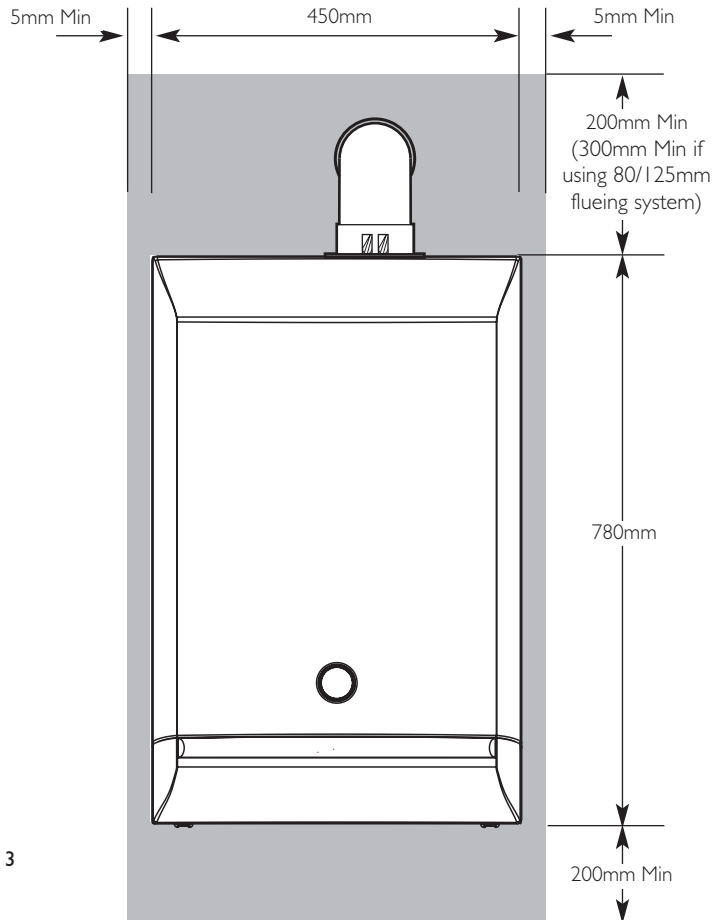

Fig. 3
6. Your boiler should have the following minimum clearances for Safety and Maintenance (Figs. 3 & 4):-